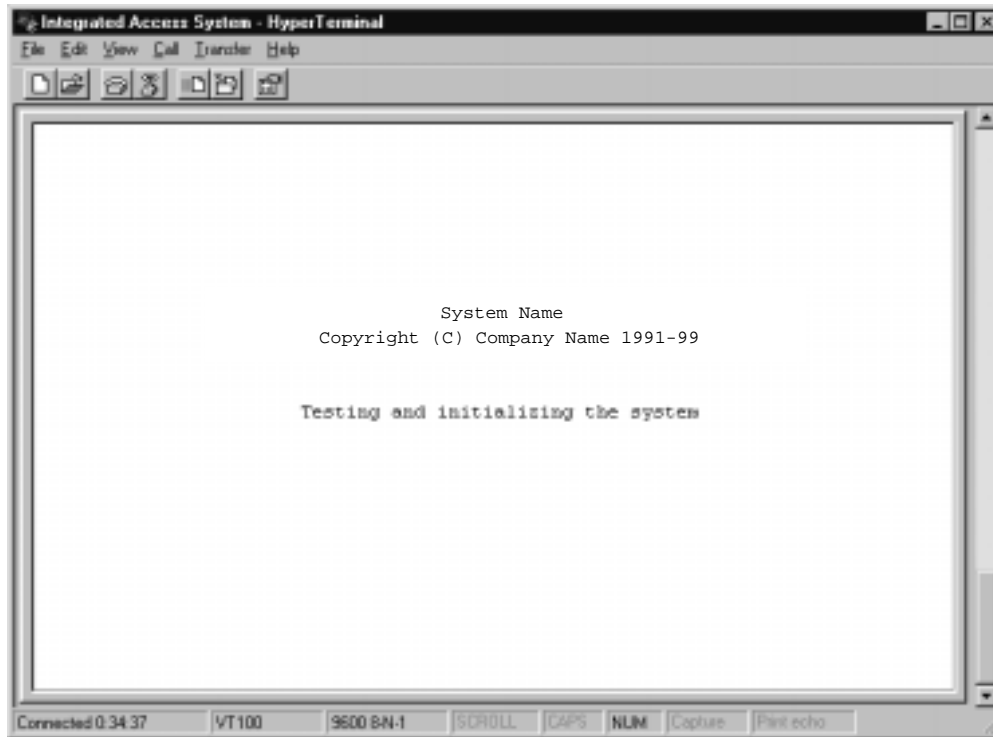
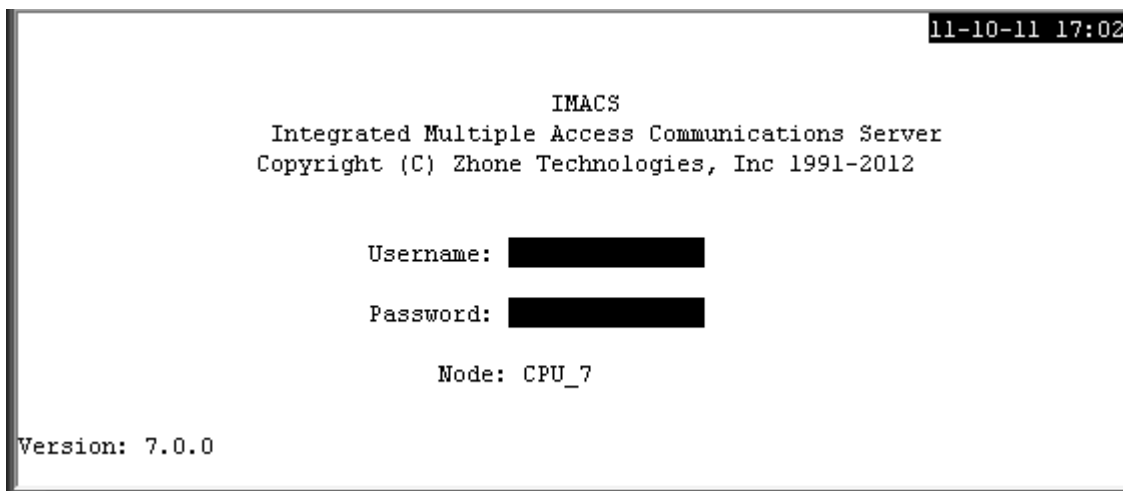

Figure 5-5. Testing and Initialization Screen
Figure 5-6. Typical Login Screen
The system will display the “Testing and Initializing the System” screen in Figure 5-5 above. When testing and initializing is complete the screen will go blank. Press the <Enter> key. The System Login Screen will display. See Figure 5-6.
1. Press <Enter>. The Login Screen depicted in Figure 5-6 should appear. If not, press <Enter> repeatedly until it does.